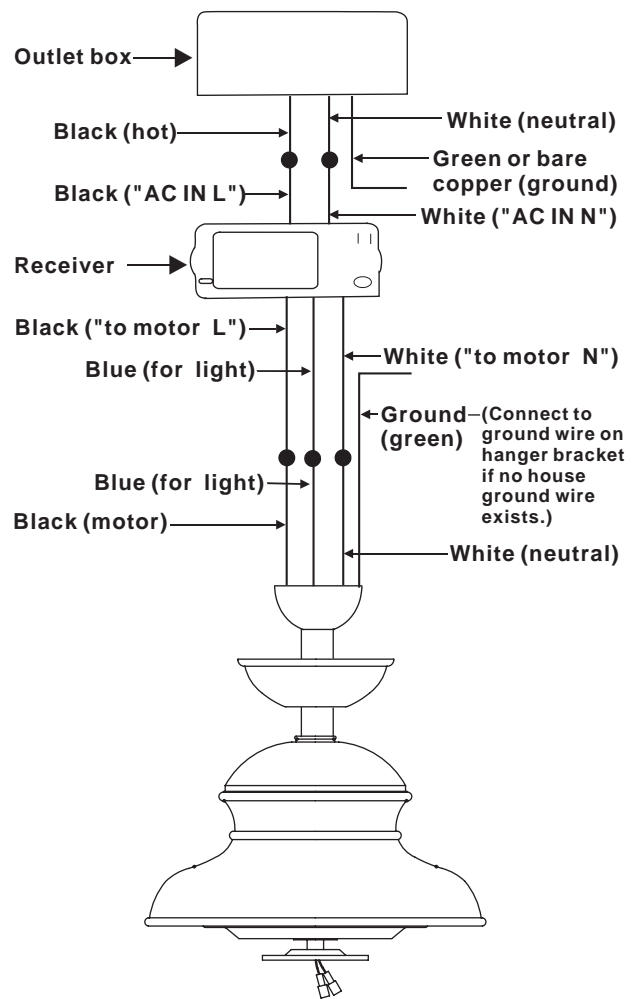

Figure 13
Step 2. (Fig. 13) Motor to Receiver Electrical Connections: Connect the black wire from the fan to black wire marked "TO MOTOR L". Connect the white wire from the fan to the white wire marked "TO MOTOR N" from the receiver. Connect the blue wire from the fan to the blue wire marked "For Light" from the receiver. Secure the wire connections with the plastic wire nuts provided.
Step 3. (Fig. 13) Receiver to House Supply Wires Electrical Connections: Connect the black (hot) wire from the ceiling to the black wire marked "AC in L" from the receiver. Connect the white(neutral) wire from the ceiling to the white wire marked "AC in N" from the Receiver. Secure the wire connections with the plastic wire nuts provided.